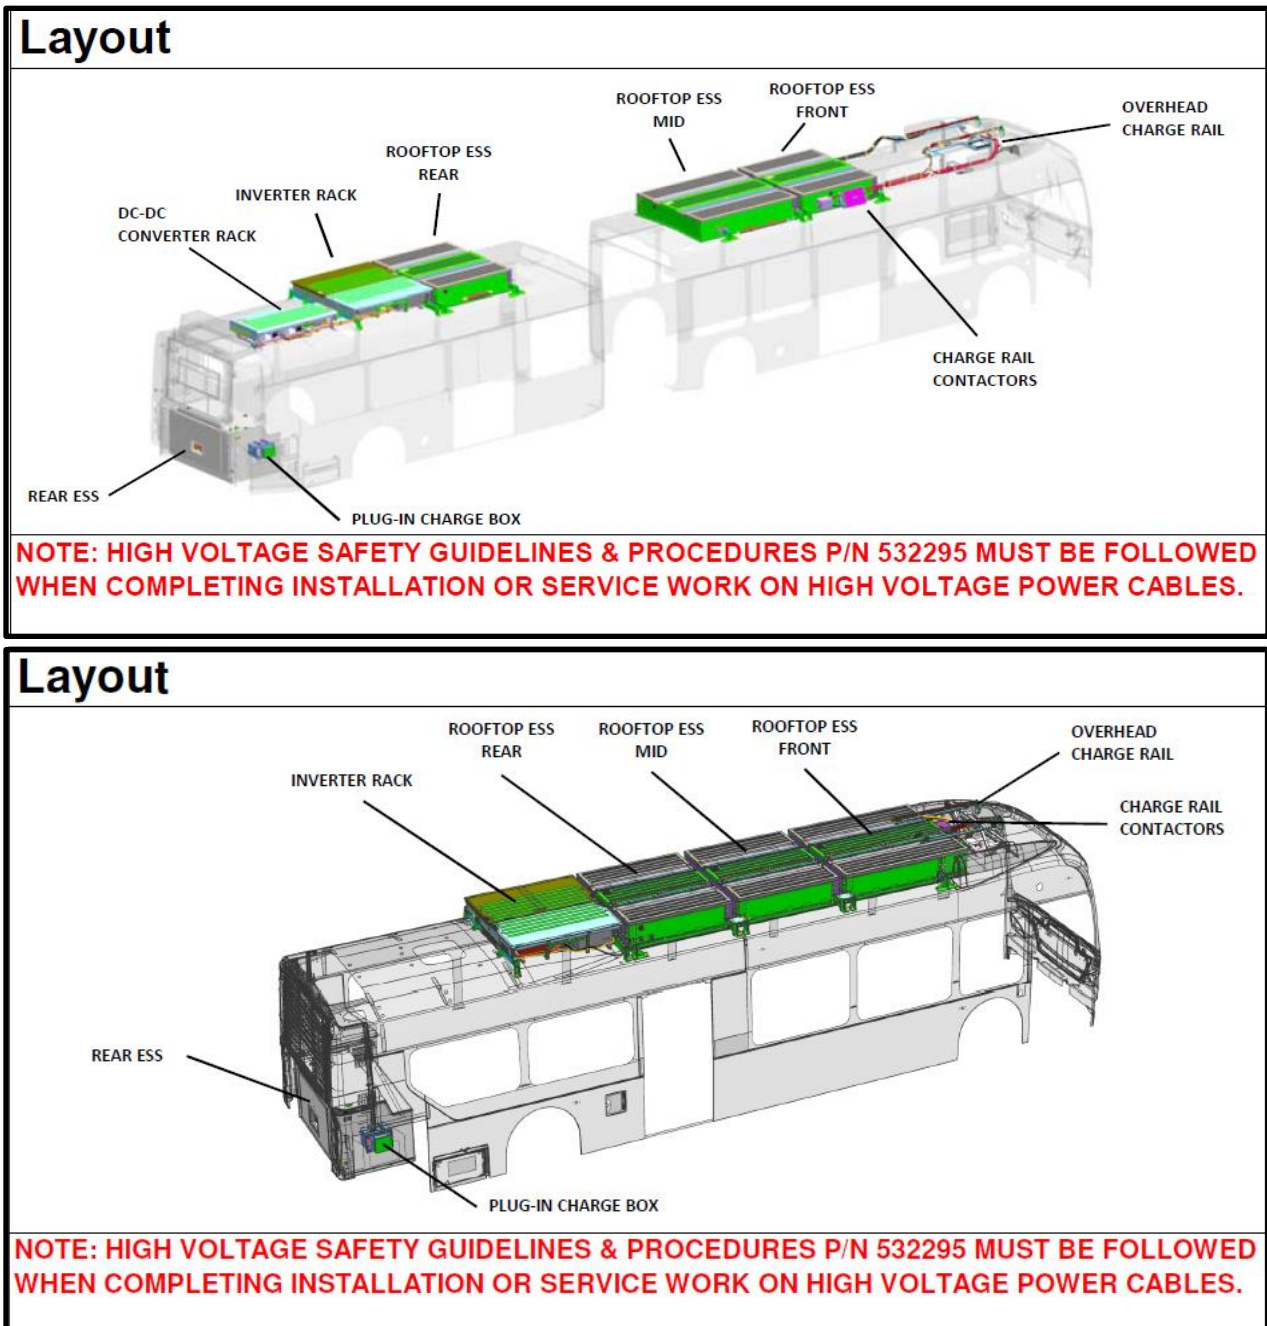

Figure 2: Battery pack string location reference.
5. Identify the location of the Charge Rail Contactor Box that will require work. See Figure 2.